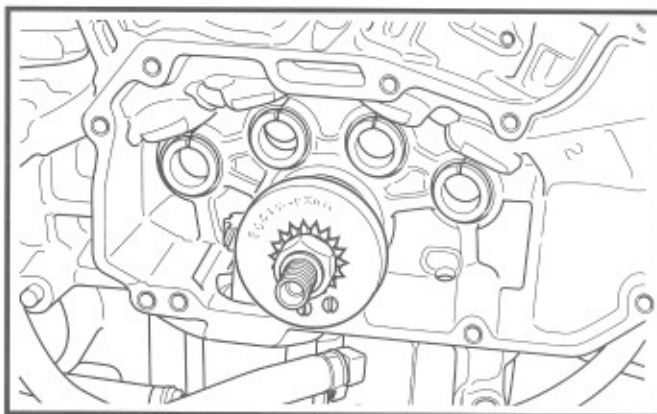

Figure 3-71. Crankshaft Locking Tool
- See Figure 3-71. Install CRANKSHAFT LOCKING TOOL (Part No. HD-41506) over pinion shaft. Install nut to pinion shaft, tightening to 35-45 ft-lbs (47-61 Nm) torque.